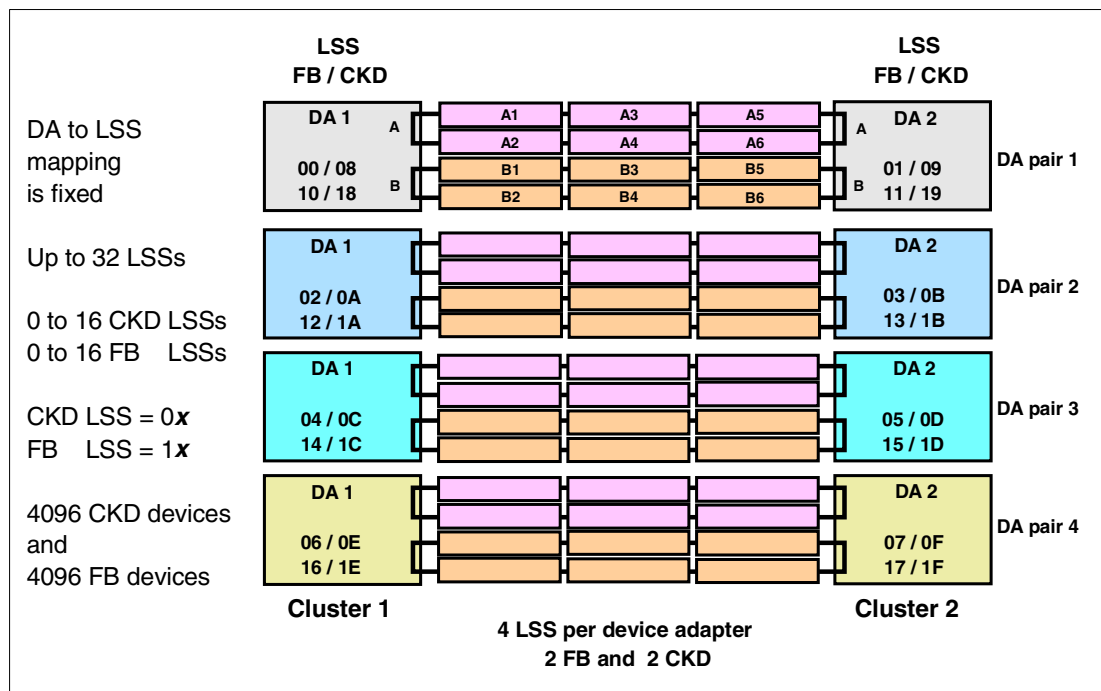

Figure 4-18 Logical Subsystem mapping
Up to 32 LSSs can be configured in an ESS, 16 for CKD servers and 16 for FB servers. Each LSS will get a hexadecimal identifier. LSSs 00x are CKD and LSSs 01x are FB, as Figure 4-18 shows. An LSS can have up to 256 logical devices defined to it. LSSs can map ranks from both loops of the DA pair.
- ▶ The device adapter (DA) to Logical Subsystem (LSS) mapping is a fixed relationship (see Figure 4-18 on page 116).
- ▶ Each *logical volume* (LV) is part of a rank. The RAID rank is the whole of a disk group. This disk group is mapped in an LSS, which is associated with a single DA in a DA pair.